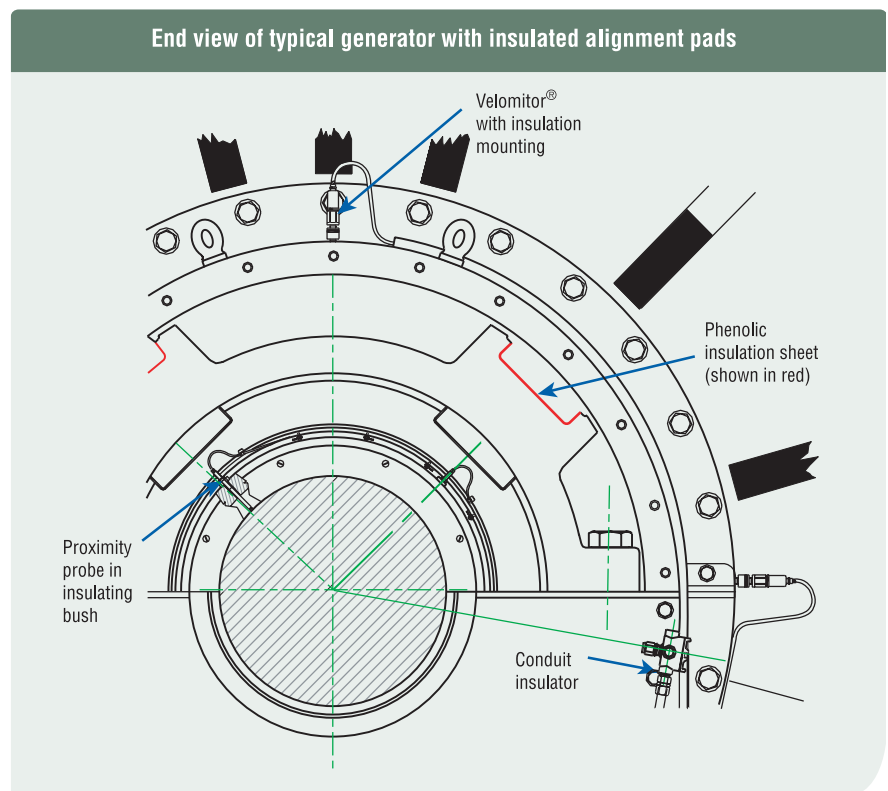

Figure 1.
Sometimes, it will be difficult to visually detect any isolation, as it may well be an integral, internal part of the bearing assembly. Spherical bearing alignment pads are sometimes installed with phenolic insulation (colored red) between them and the bearing in Figure 1. In bearing blocks supplied by some bearing OEMs, a layer of PTFE insulation is found on the bearing housing spherical location or seating.
**A** The use of mineral-insulated thermocouples or RTDs could ground the bearing, especially on those types of bearings having insulated spherical location or phenolic insulation (as in Figure 1). The instrument selected should not have a bare metallic case, which will ground the bearing shell to the housing. The temperature element should have an insulated oversleeve, or flexible leads that isolate the element from the bearing housing. The larger diameter elements are available with isolation tests up to 1000 Vrms.